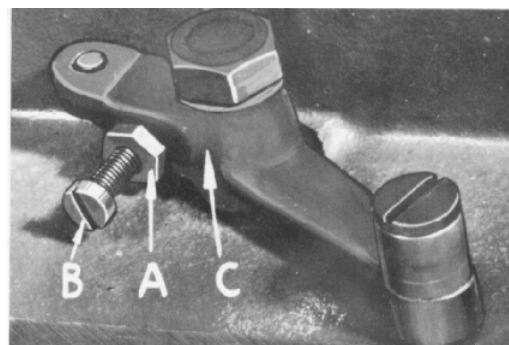
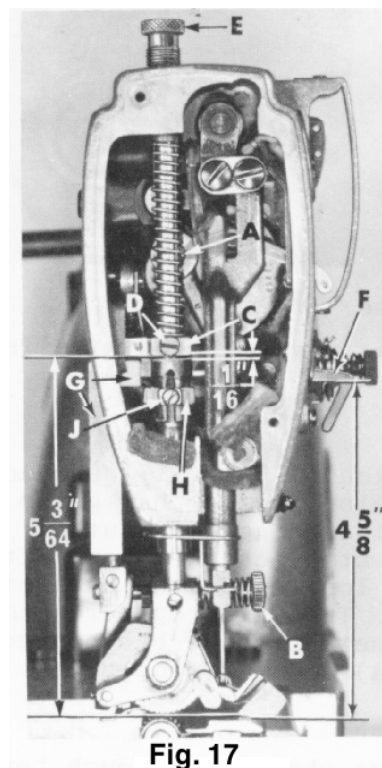

Fig. 16
Fig. 17
The presser spring (A, Fig. 17) should exert only enough pressure on the feed rollers to make the work feed uniformly. To increase the pressure on the presser foot, turn presser spring regulator (B, Fig. 17) in a clockwise direction.
When locating presser bar guide (C, Fig. 17) presser foot must rest directly against throat plate. Proper setting of guide is 5 3/64 inches between underside of presser bar guide and the top of throat plate (Fig. 17). To obtain this setting, remove pressure from the presser spring (A) and loosen set screw (D). Tap on presser foot to insure it is down against throat plate. Set guide to the 5 3/64 inch dimension, center foot by turning it so needle enters the middle of its slot and retighten screw (D). Apply pressure to top
Set needle thread pull-up bracket (F) so that underside of wire is 4 5/8 inches above throat plate (Fig. 17).
Presser bar connection (G, Fig. 17) should be set about 1/16 inch below presser bar guide (C). Accomplish this by loosening lock nut (A, Fig. 16), and relocating stop screw (B) on lifter lever bell crank (C), located at the back of machine, under bed plate. Turning stop screw to right or left, properly sets presser bar connection. Tighten lock nut (A) to lock stop screw.
Tension release should be set so as not release when sewing over seams or when presser foot is raised. Adjustment of tension release cam (H, Fig. 17) and in and out position of tension assembly are required for proper operation.
The tension release cam (H, Fig. 17) should now be positioned by loosening set screw (J) and then rising or lowering cam (H) to suit the sewing conditions. The average release point is between 1/4 and 5/16 inch of presser foot lift above the throat plate. Tighten tension release cam set screw securely.